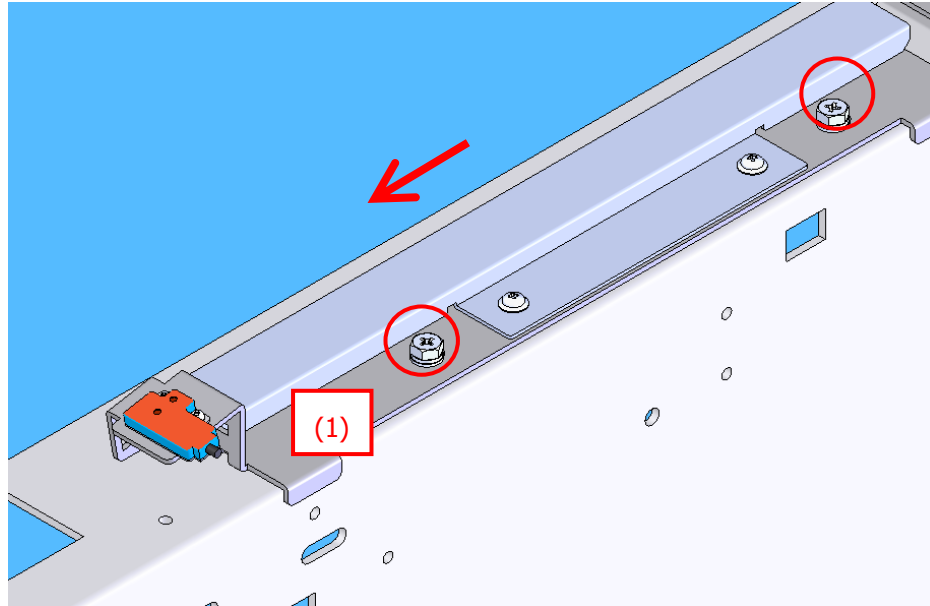

Fig. 5 Positioning of (1)
6. Confirm the front sensor is NOT being blocked while the right/left wrapping plates are on the original position. If the sensor is being blocked, move the bracket (1) toward the red arrow until the sensor is NOT being blocked, and fix it after additionally moving 0.5 - 1.0mm (Fig. 5).